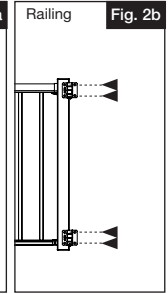

Fig. 2b
- ii.) For gate installation on a railing system: center hinges on the upright to align with the top and bottom rails of the gate (Fig. 2b).